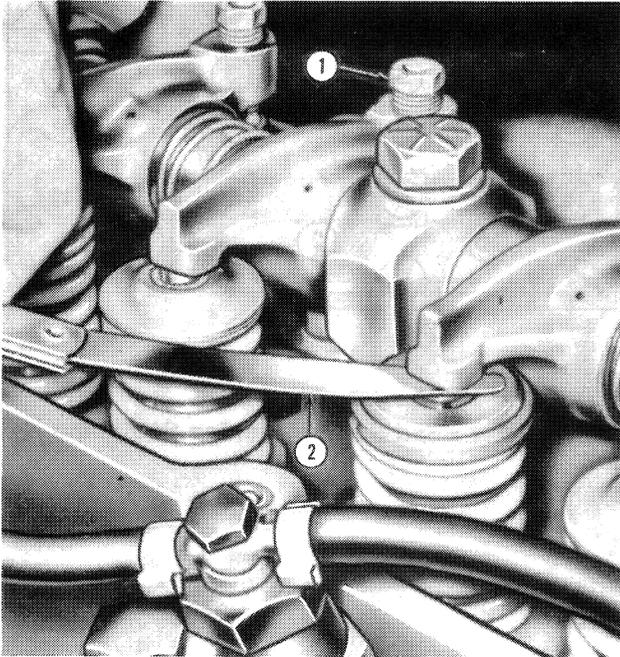

Figure 20
- Rotate the engine and set the valve lash. Figure 20 — see "Specifications" — Chapter 3.